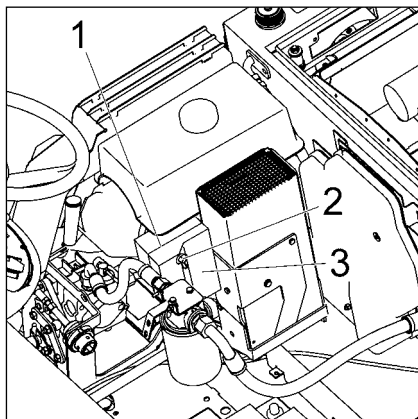

Fig.25
- Unscrew wing screw (Fig. 25/2) and remove filter cap (Fig. 25/3) with filtering insert.